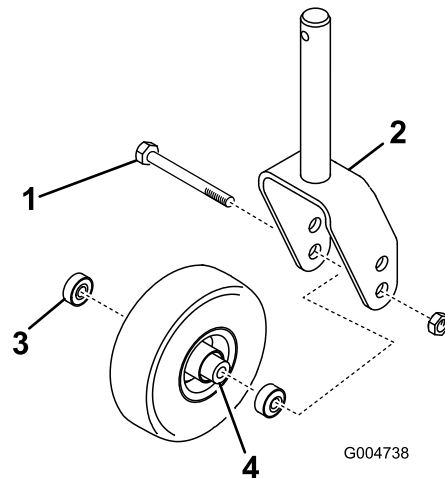
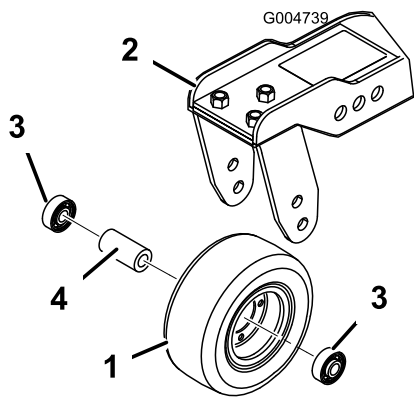

Figure 106
Figure 107
1. Remove the locknut from the bolt holding the castor wheel assembly between the castor fork (Figure 106) or the castor pivot arm (Figure 107). Grasp the castor wheel and slide the bolt out of the fork or pivot arm.
- Remove the bearing from the wheel hub and allow the bearing spacer to fall out (Figure 106 and Figure 107). Remove the bearing from the opposite side of the wheel hub.